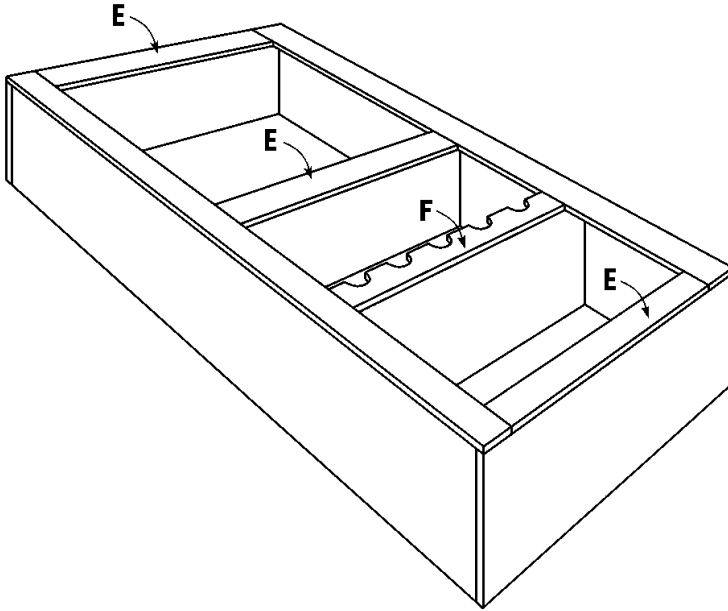

Figure 3
2. Repeat Step 1 to attach the remaining Vertical Trim (D) to the opposing Side (A).
3. Cut three Horizontal Trims (E) from 1 x 4 pine, each measuring 26-3/8 inches.
4. Apply glue to the meeting surfaces, and attach one Horizontal Trim (E) over the edge of the Top (B), as shown in *Figure 3*. Screw through the Horizontal Trim (E) into the edge of the top (B). Use 1-5/8" wood screws spaced every 5 inches.
5. Repeat Step 4 to attach the remaining two Horizontal Trims (E) flush with the upper edge of the Shelf (C) and flush with the lower edge of the bottom (B). See *Figure 3*.
6. Cut two Horizontal Wine Trims (F) from 1 x 4 pine, each measuring 26-3/8 inches.
(F) on the edge of the lower Shelf (C), as shown in *Figure 3*. Use 1-5/8" wood screws spaced about every 5 inches.
- Repeat Step 7 to attach the second Horizontal Wine Trim (F) 5-1/2 inches above the first Horizontal Wine Trim (F). Apply glue to the meeting surfaces, and fit the second Horizontal Wine Trim (F) between the two Vertical Trims (D). Toenail through the Horizontal Wine Trim (F) into each of the Vertical Trims (D). Use 1-1/2" finishing nails.